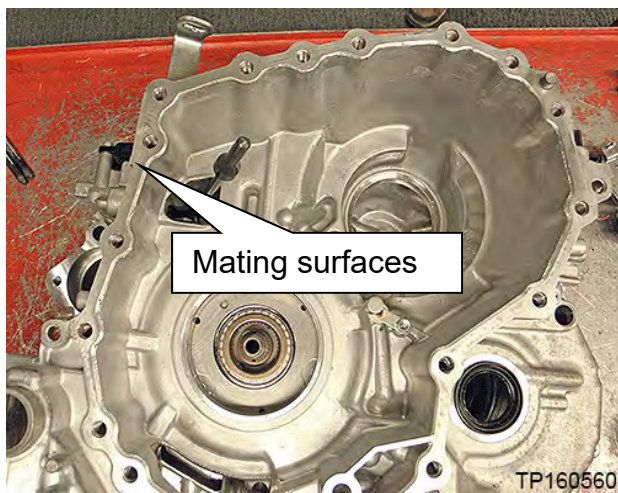

Figure 82
- For Rogue re-install all six (6) original bolts into the old sub-assembly.
62. Thoroughly clean the mating surfaces of the CVT case (Figure 82) that the sub-assembly was just separated from (a plastic scraper can be used).